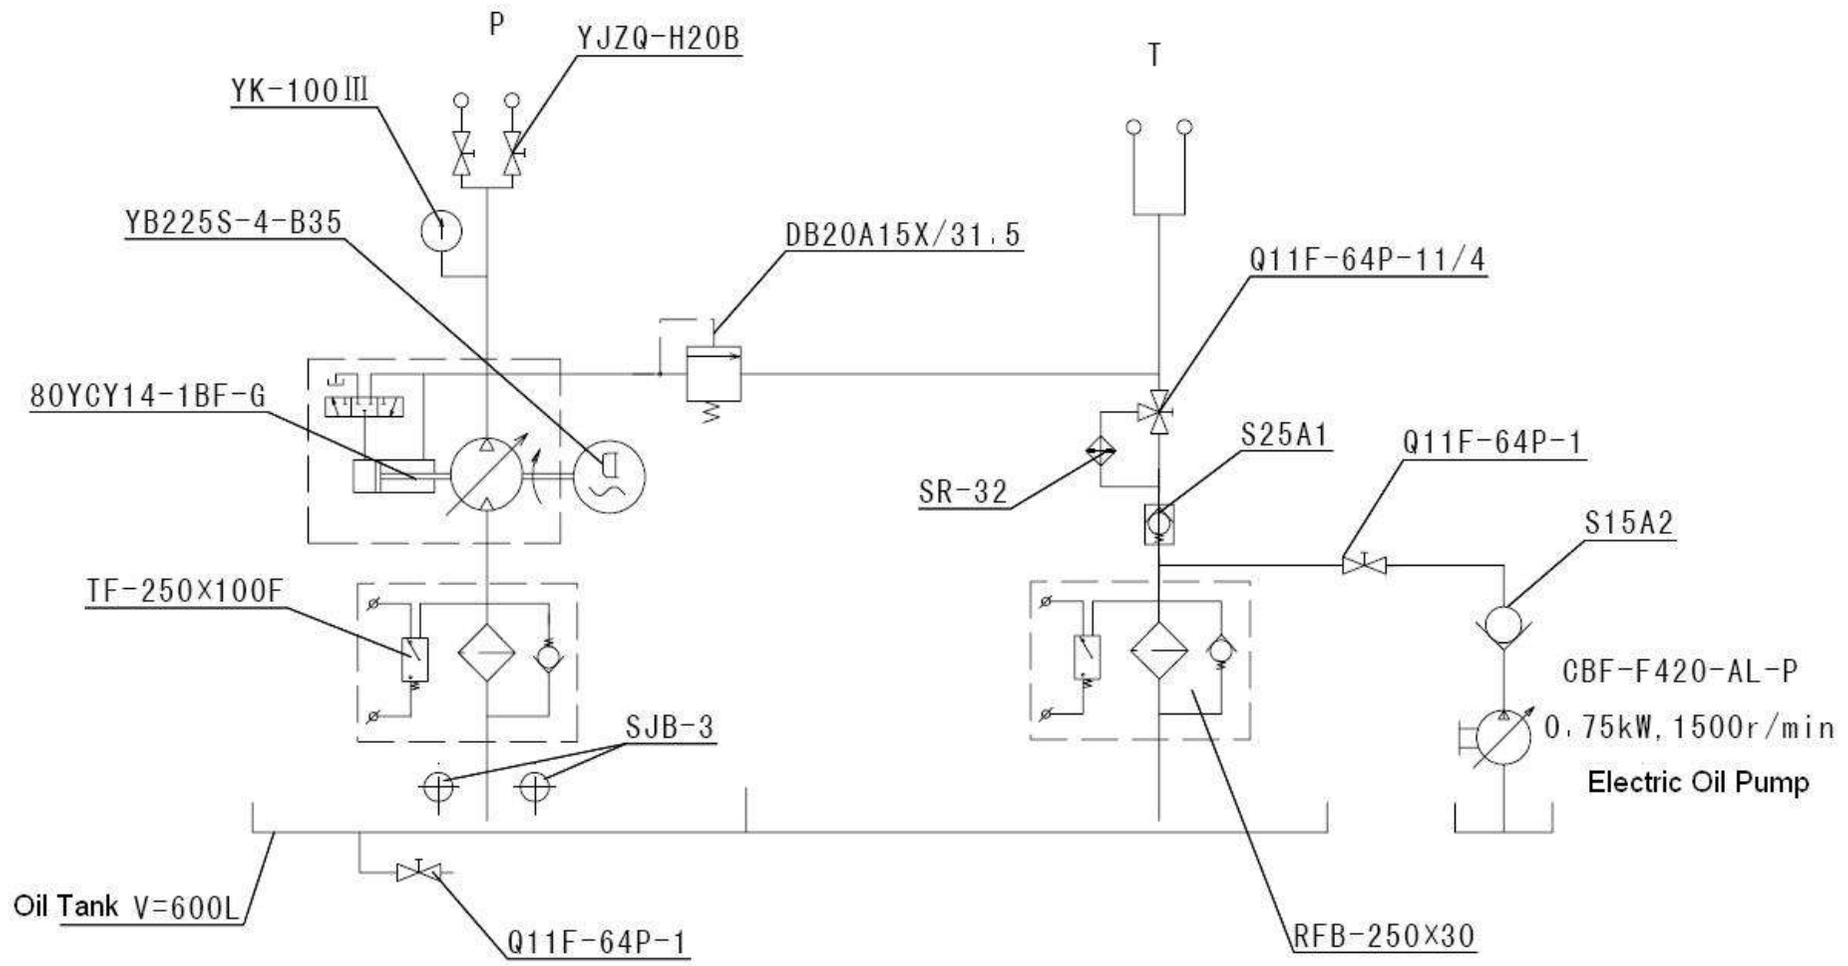
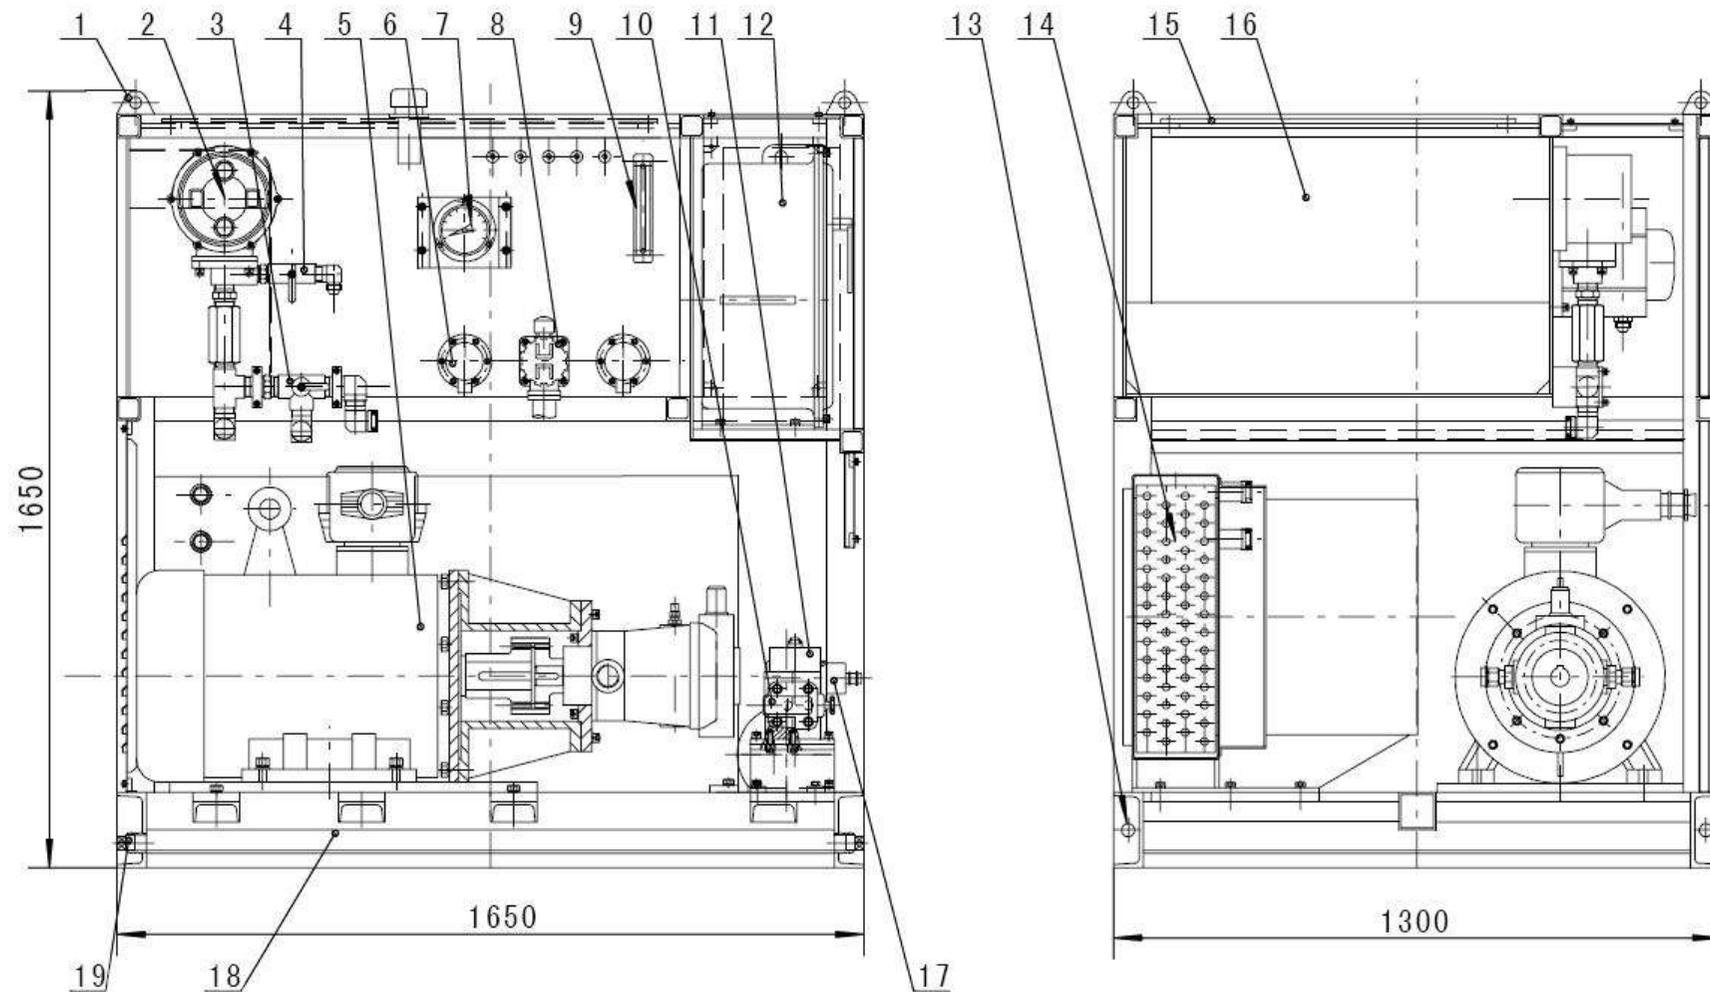

Fig.1 Schematic Diagram of YZBF-120LD Air-cooled Hydraulic Power Unit
Fig.2: Outline of YZBF-120LD Air-cooled HPU
oil tank, radiator, electric heater, electric control cabinet, oil-in & out port, pressure control parts and hand pump, etc. (refer to Fig.1). The power unit is tank-on-the-top structure (see Fig.2), to ensure enough intake of oil for electric motor-pump assembly. Radiator (Fig.2-14) is set under the oil tank (Fig.2-16) with motor-pump group (Fig.2-5). In front of oil tank is explosion-proof electric control box (Fig.2-12), which is to control “on and off” of motor-pump assembly, radiator, and electric heater (Fig.2-6). On the other side of the tank is hydraulic control panel, c/w oil taking filter (Fig.3-11), electric heater (Fig.3-15), Oil return filter (Fig.3-5), tee ball valve (Fig.3-4) and shock-proof pressure gauge (Fig.3-7), liquid-meter (Fig.3-9), and electric oil pump (Fig.7/Fig.2-17), etc.
7.1 Fig.1 Schematic Diagram of YZBF-120LD air-cooled hydraulic power unit
7.2 Fig.2 Outline Drawing of YZBF-120LD air-cooled hydraulic power unit